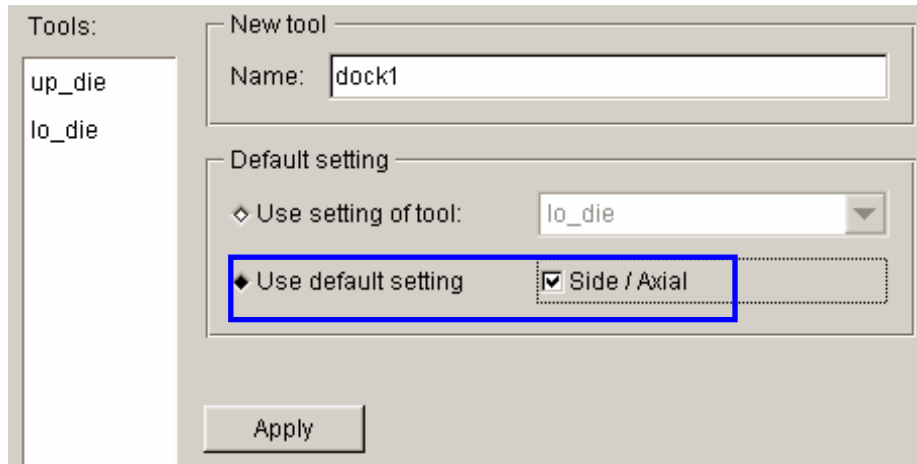

Figure 3.22 Create dock1
17. Click **New tool** button in the tool definition interface to display the New Tool interface illustrated in Figure 3.22. At the input data field of Name, type in **dock1**. Then, select **Use default setting** and toggle on **Side/Axial** option.